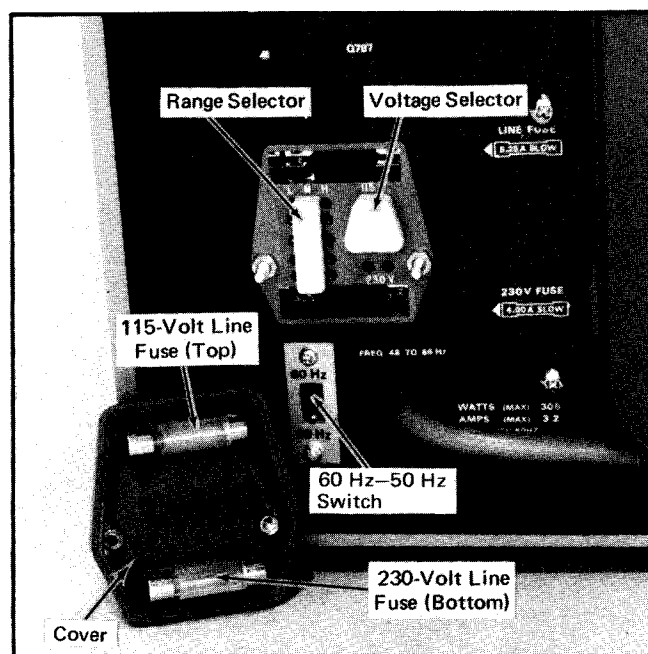

Fig. 2-1. Line Voltage Selector assembly and 60 Hz-50 Hz switch on the rear panel (shown with cover removed).
3. To convert from 115-volt to 230-volt line voltage or vice versa, pull out the Voltage Selector switch bar (see Fig. 2-1); turn it 180° and plug it back into the remaining holes. Change the line-cord power plug to match the power-source receptacle or use a 115-to-230-volt adapter.
4. To change regulating ranges, pull out the Range Selector switch bar (see Fig. 2-1) slide it to the desired position and plug it back in. Select a range which is centered about the average line voltage to which the instrument is to be connected (see Table 2-1).
6. To convert from operation with 60 Hz line frequency to operation with 50 Hz line frequency (or vice versa), slide the 60 Hz-50 Hz switch (see Fig. 2-1) to the position which coincides with the line frequency being used.